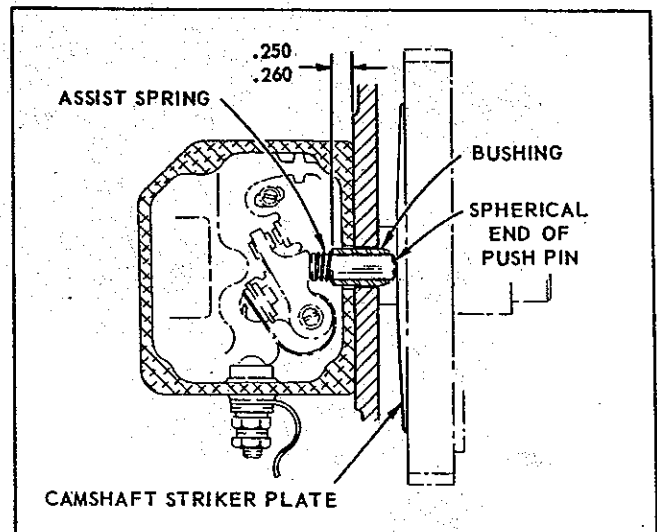

Fig. 44
#### BREAKER PUSH PIN and BUSHING (Fig. 44)
**Push pin** for breaker arm should be removed, inspected for wear and replaced if necessary. **In reassembly:** Mount *assist spring* under head of push pin and insert pin assembly into guide hole, with *spherical end* of pin toward camshaft striker plate, see Fig. 44.